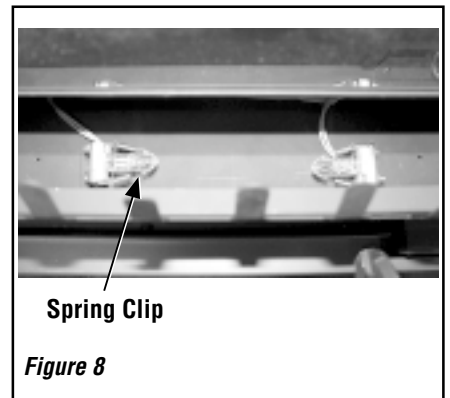

Figure 8
3. Release spring clip over one bulb (see **Figure 8**).